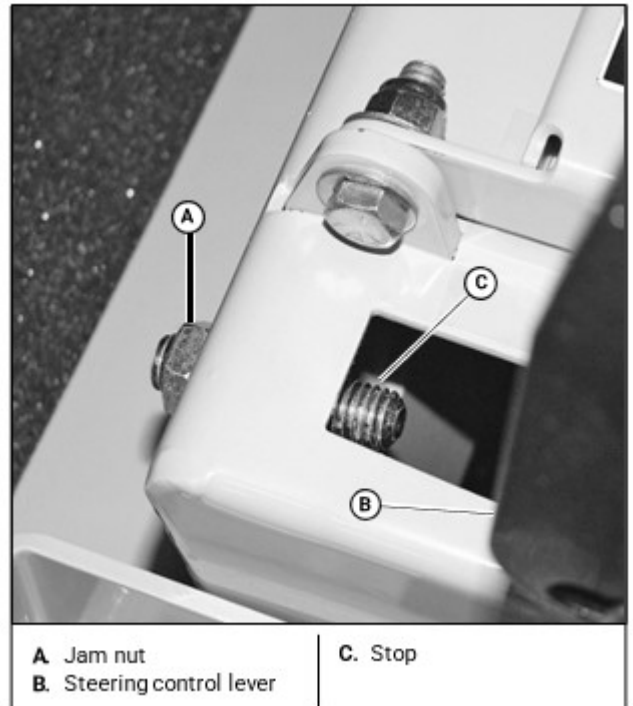

Figure 5
1. Determine which drive tire is rotating too fast when both steering control levers are against the stops in the control panel. [Figure 5]